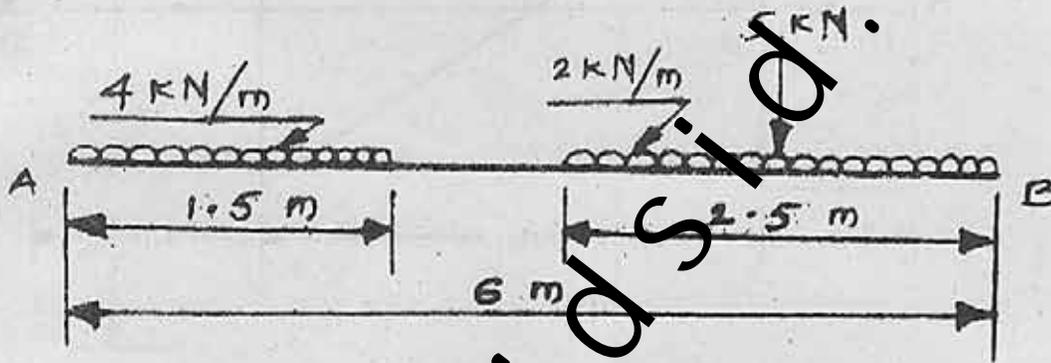

Fig. 2
- (b) A simply supported beam AB, 6 m long is loaded as shown in Fig. 2. Construct the shear force and bending moment diagram for the beam and find the position and value of maximum bending moment. [12]